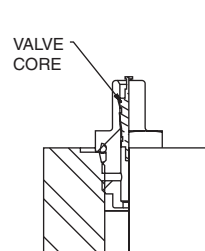
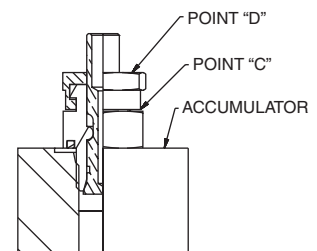

FIGURE 5
FIGURE 6
Make sure nitrogen supply is shut off. Attach hose to nitrogen bottle. If accumulator has a gas valve as shown in Figure 5 follow steps A through L and skip steps F and J. If accumulator has a gas valve as shown in Figure 6, follow steps A through L and skip steps E and I.
Accumulator having gas valve as per Figure 5.
- (A) Remove gas valve guard and gas valve cap.
- (B) Back gas chuck "T" handle all the way out (counter clockwise) before attaching charging assembly to accumulator gas valve.
- (C) Close bleed valve.
- (D) Making sure not to loop or twist the hose, attach swivel nut to gas valve and tighten (10-15 in. lb.) (11.5-17 cm kg).
- (E) Turn gas chuck "T" handle until the gauge starts showing the pressure in the accumulator. Do not turn the "T" handle all the way down, as it will damage the valve core.
- (F) **For gas valves as shown in Figure 6**, hold gas valve at point "C" with one (1) wrench while unscrewing hex nut at point "D" with a second wrench. This will open the poppet inside the gas valve. Note: Three (3) turns will fully open the valve.
- (G) Crack open nitrogen bottle valve and **slowly** fill accumulator. Shut off when gauge indicates desired pre-charge.
- (J) **For gas valves as shown in Figure 6**, with a wrench, tighten hex nut at point "D" to close internal poppet (5-8 ft. lbs.) (5.7-9.2 cm kg).
- (K) Hold gas valve to keep from turning, loosen swivel nut, remove assembly. Check for precharge leak using a common leak reactant.
- (L) Replace gas valve cap (10-15 in. lbs.) (11.5-17 cm kg) and valve guard. (Gas valve cap serves as a secondary seal.)
Accumulators having gas valve as per Figure 5.
Accumulators having gas valve as per Figure 6.
For accumulators having gas valve as shown in Figure 5, attach gauging assembly as shown in Figure 2 following Steps 1 through 5. Then, open bleed valve until all gas pre-charge is relieved from accumulator. Then remove gauging assembly and gas valve.
For accumulators having gas valve as shown in Figure 6, remove gas valve guard and gas valve cap. Then hold valve at point "C" with one (1) wrench while unscrewing hex nut at point "D" with a second wrench. Wait until all gas pre-charge is relieved from the accumulator and then remove gas valve.
▲ A.S.M.E. Units, 7", 9" and 12" bore sizes, and some units rated above 3000 PSI will have valve per Figure 6 (Part No. L07689000*). Other units will have gas valve per Figure 5 (Part No. L07471000*) which will contain gas valve core Part No. 5822220000. Use tool (Part No. 5824410000) to remove and replace new core.